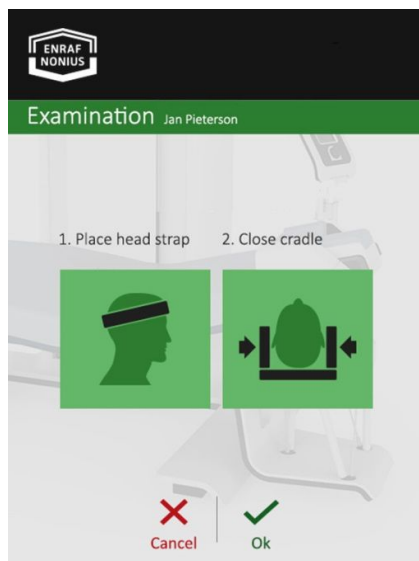

Fig. 61
- Place Head - Strap, close the Cradle (fig. 61) and confirm with "ok".